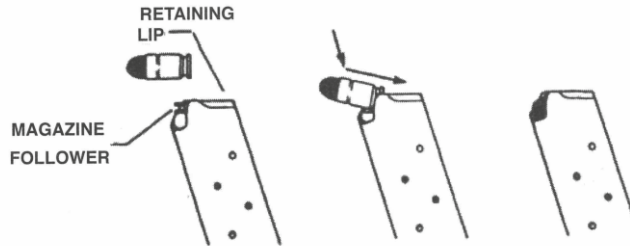

FIGURE 3 ' LOADING MAGAZINE
3. With open end uppermost, grasp the magazine in one hand. Place a round on the magazine follower with the base of the round just forward of the retaining lips (see Figure 3). Press the round down and back until the base of the round. Place the next round on top of the previous round and press down and back. Repeat until the magazine is loaded, but do NOT exceed its capacity. For magazine capacity, see Section 2 - Main Features.